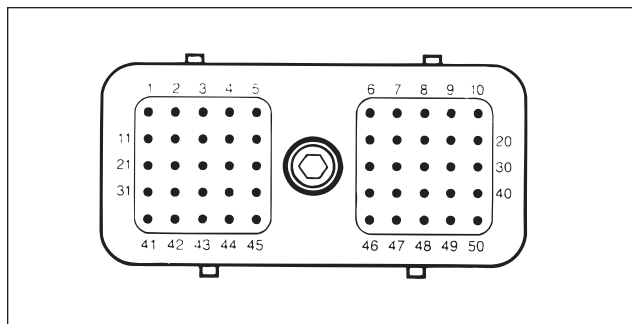
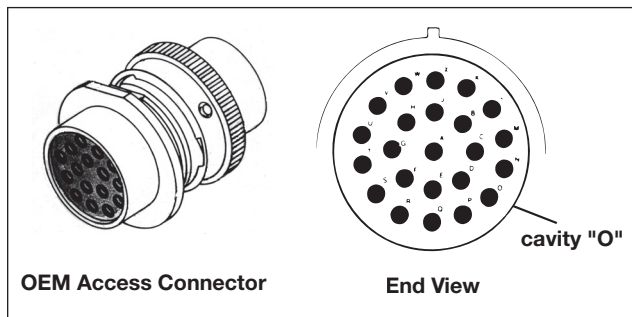

FIG. 6
FIG. 7
Wiring for the E Brake is connected to two engine input connectors. Figure 6 shows the 50-pin OEM connector located on the engine ECM. Figure 7 shows the 23-pin OEM access connector located on the harness connected to the engine ECM.
- a. Locate the Engine Control Module (ECM) attached to the side of the engine block. Remove the sealing plugs from the 50 pin OEM connector, grommet locations B34 and B27 (see Fig. 6). Insert the Deutsch connectors from the ECM/Switch subharness into locations B34 and B27.
- a. Locate the OEM Access Connector (see Figure 7). Remove the sealing plug from cavity "O" and insert the pink wire with the Deutsch connector into cavity "O".